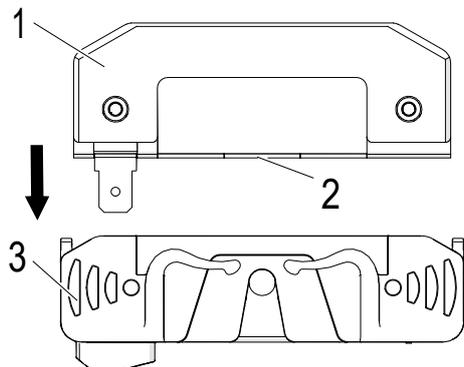

Fig. 160: Insert sliding contact (1) into balance (3)
→ Insert the sliding contact (1) into the balance (3) (see Fig. 160).
→ Press the copper plate (2) of the sliding contact (1) to the bottom of the balance (3). Ensure that the sliding contact (1) is correctly centered (4) (see Fig. 160).